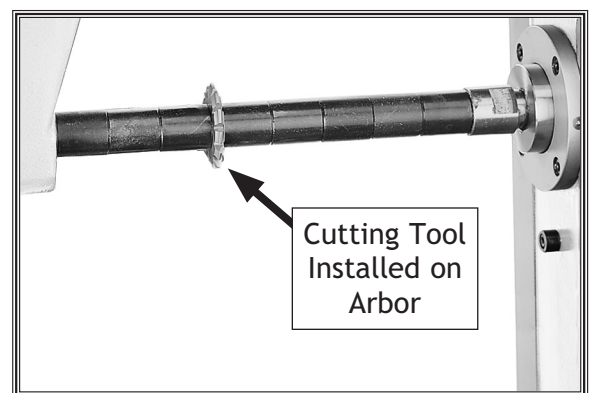

Figure 36. Cutting tool installed on arbor, between spacers.
6. Insert the arbor, with the cutting tool already loaded into the spindle (see **Figure 36**).